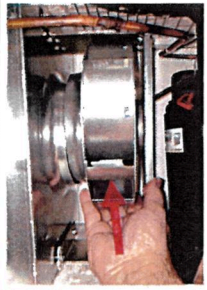

Figure 2
3. Lift the original fan/bracket up and off the (4) screw heads. (Figure 2)